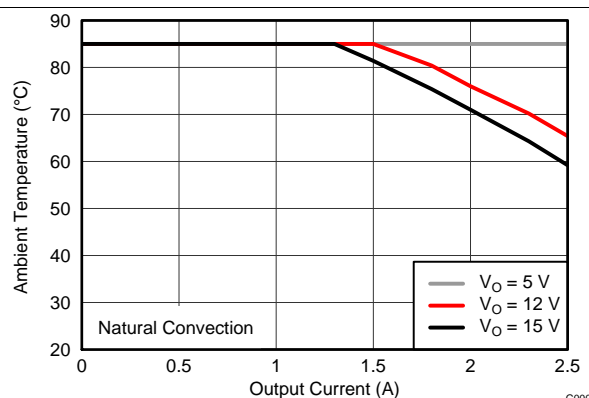

Figure 22. Safe Operating Area
- (3) The temperature derating curves represent the conditions at which internal components are at or below the manufacturer's maximum operating temperatures. Derating limits apply to devices soldered directly to a 100 mm × 100 mm double-sided PCB with 1 oz. copper. Applies to Figure 22.